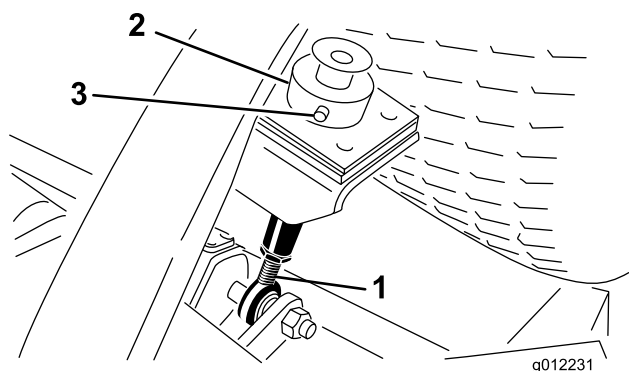
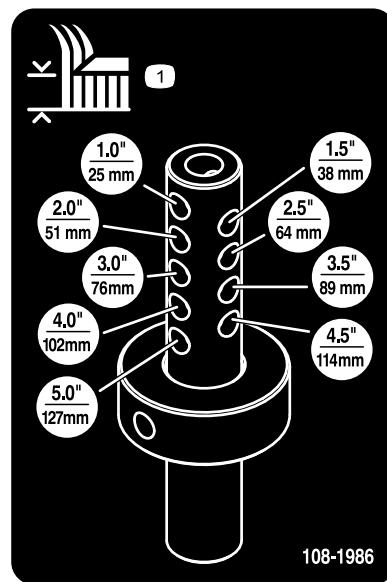

Figure 8
Figure 9
- Remove the hair pin and clevis pin securing the height of cut collar to the height of cut rod on the rear of the cutting unit (Figure 8).
- Align the height-of-cut collar to the desired height-of-cut holes on the height of cut rod (Figure 8 and Figure 9).